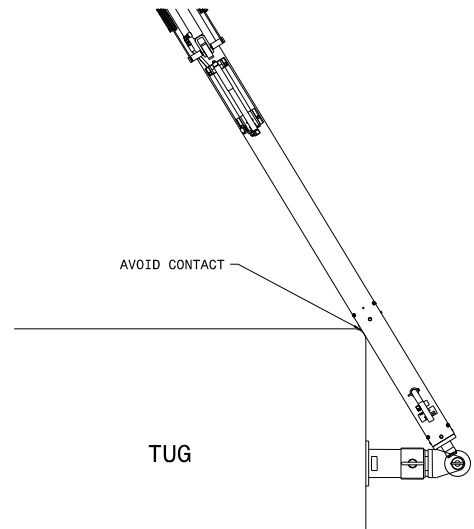

FIGURE 6
- Damage to the towbar or aircraft can result from pushing an aircraft while maintaining too sharp of an angle between the tug and the aircraft. Contact between the towbar weldment and the tug must be avoided. It is recommended that the angle between the tug and towbar not exceed 90°. **Reference Figure 6.**